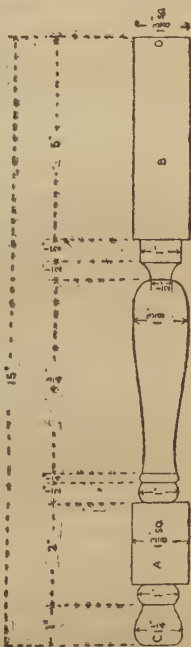

Fig. 8—LEG OF STOOL
**Legs for Stools.**—Here is a comparatively simple job the reader may deal with when he has gained a little experience in the handling of his tools. Fig. 8 shows the leg of a stool, and the following describes how to tackle it in a lathe. Four legs, of course, will be required for the stool, but as the operation for each is the same only one need be discussed here.
First mark off the centres of each end in the usual way, with a centre pip at end c and a saw-cut at end d. Place the wood in the lathe with the prong chuck embedded in end d and the centre of the tailstock in c. With a pencil and square mark off carefully along the piece of wood the dimensions given in Fig. 8, allowing half an inch of material for waste at each end. Thus if the length of wood is 16 in. the last mark will be made  $5\frac{1}{2}$  in. from the prong-chuck end. Two inches from the tailstock end comes the square piece marked A on sketch. The corners of the 2-in. piece should be removed. Similarly the corners of the piece lying between A and B should also be removed, but the turner must keep in mind the fact that at one point the diameter is  $1\frac{3}{8}$  in. and watch that he does not take off too much. A hand-chisel is the best tool to use for removing these corners.